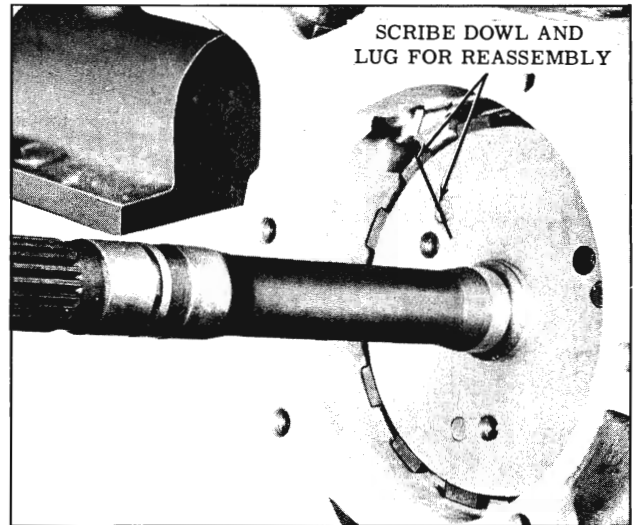

Fig. 3-235 Removing Output Shaft
- 27. Scribe mark on dowel of carrier and lug of output shaft for alignment on reassembly. (Fig. 3-235)